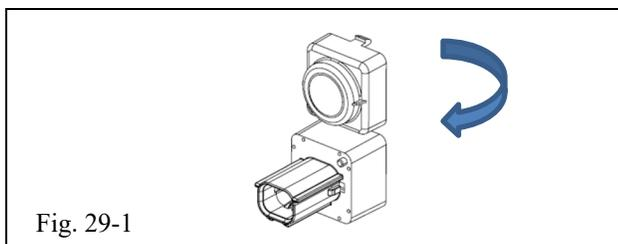

Fig. 29-1
- (a) Close connector cap top. Ensure locking tab is engaged. (Fig. 29-1)